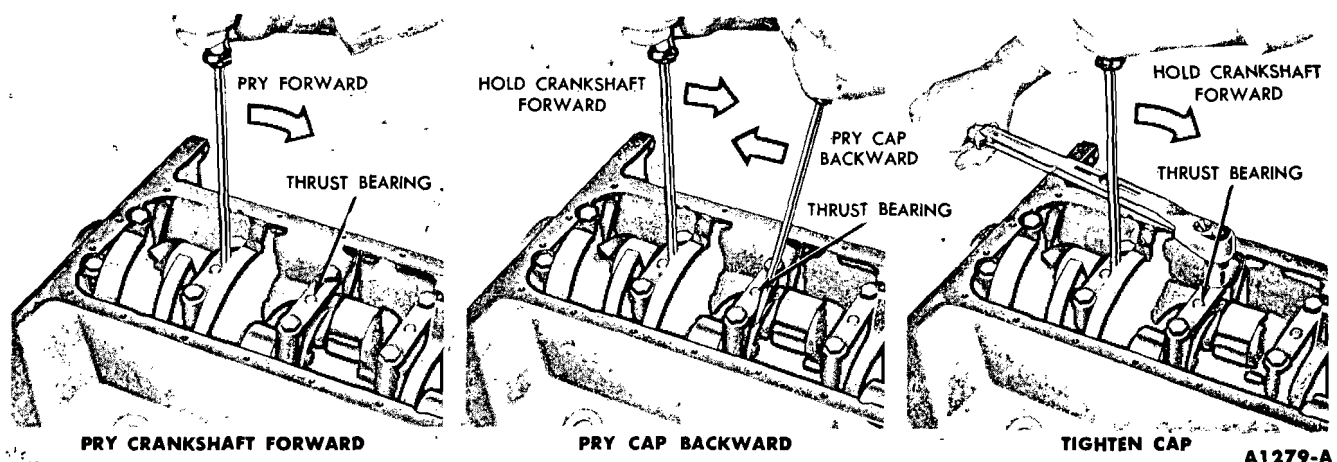

FIG. 73—Thrust Bearing Alignment
17. Pry the crankshaft forward against the thrust surface of the upper half of the bearing (Fig. 73).
18. Hold the crankshaft forward and pry the thrust bearing cap to the rear (Fig. 73). This will align the thrust surfaces of both halves of the bearing.
19. Retain the forward pressure on the crankshaft. Torque the cap bolts to specifications (Fig. 73).